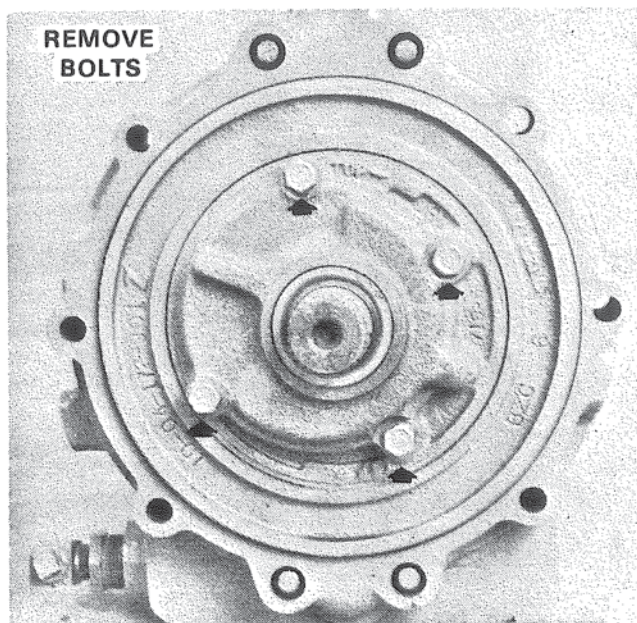

Figure 8. Removing Pump From Adapter.
1. Remove the four (4) front pump attaching bolts. Figure 8. Place a protective covering over splines to prevent damage to seal lip, and lift pump assembly squarely up and over the protruding input shaft.